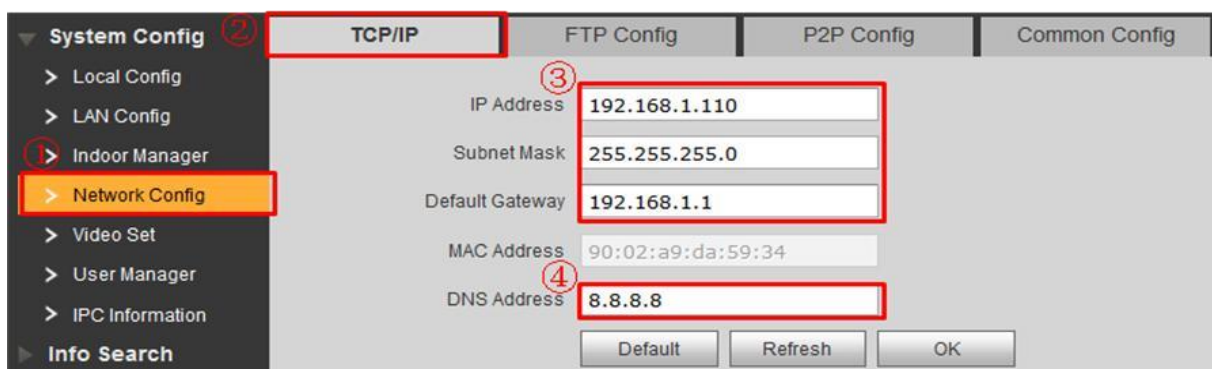

Figure 4-1
- a) Go to the Network interface, set VTO IP address so that it can connect to the network. Set local DNS address. See Figure 4-1.